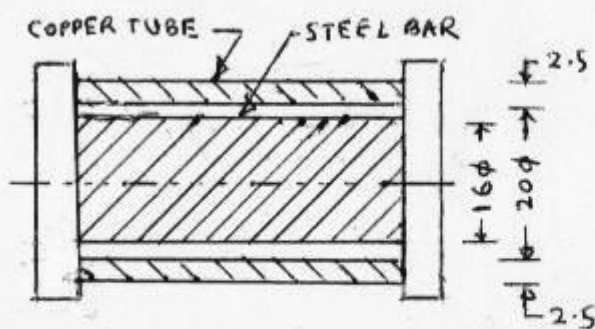

fig.11 Q.5(b)
- (b) A Steel circular bar of 16mm diameter is placed inside a copper tube having internal diameter of 20mm and thickness of 2.5mm as shown in **fig. 11**. Both the ends are rigidly fixed and temperature of assembly is increased by 60°C . Compute magnitude and nature of stresses produced in each material. Take modulus of elasticity of steel and copper as 200GPa and 100GPa respectively. Consider Co-efficients of thermal expansion (per $^{\circ}\text{C}$) for steel and copper as 12×10^{-6} and 18×10^{-6} respectively.